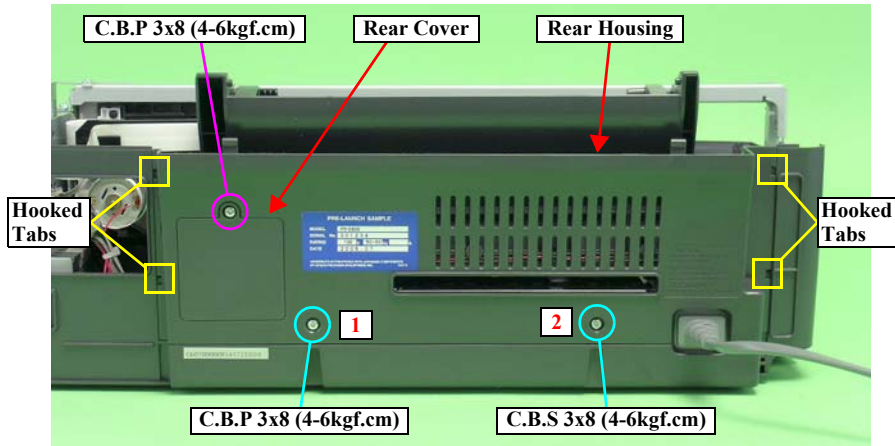

Figure 2-15. Removing the Rear Housing
- Tighten the screws to secure the Rear Housing in the order shown in Figure 2-15.